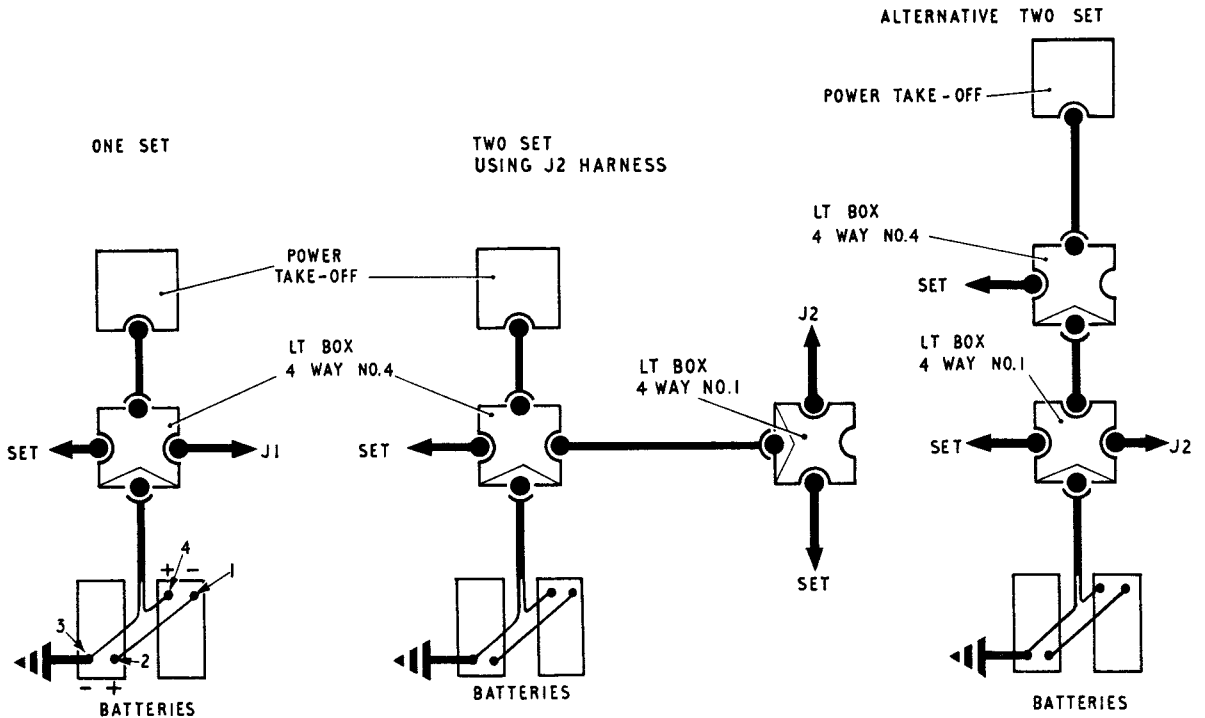
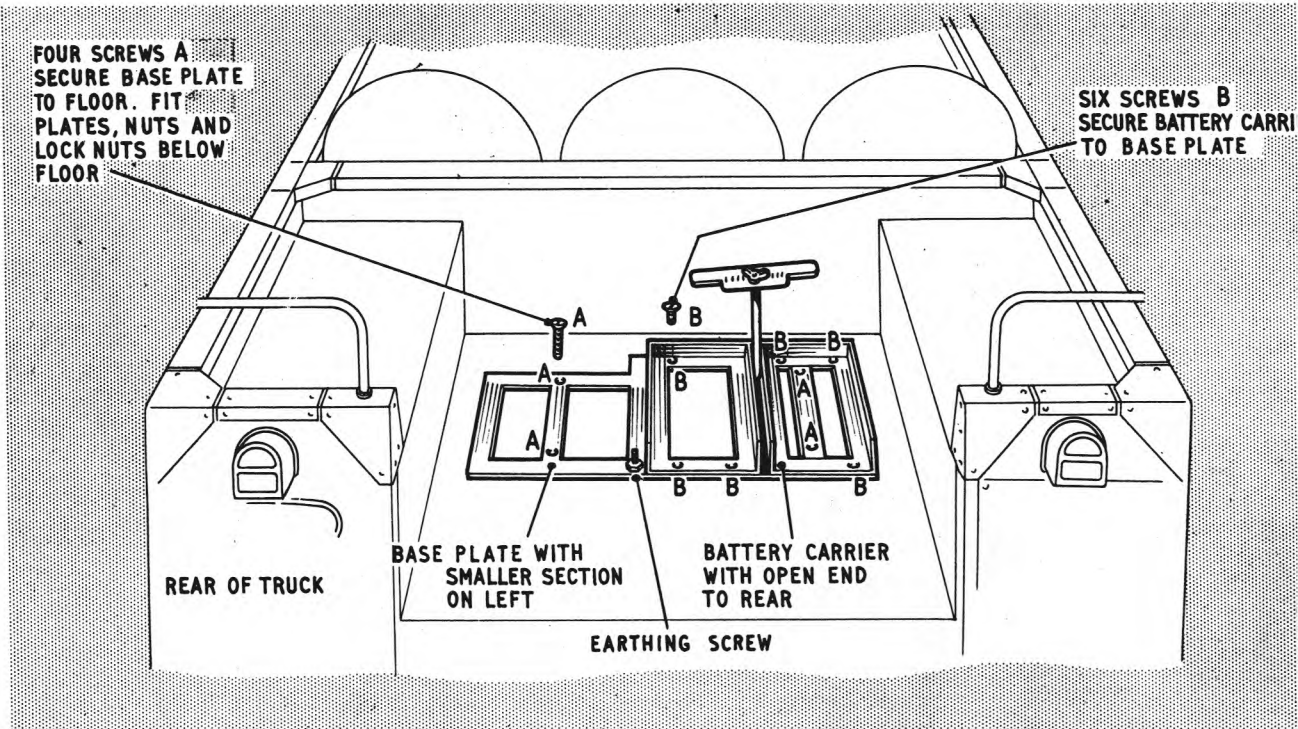

FIG. 6 BATTERY CONNECTIONS TO ALTERNATIVE LT BOXES
FIG. 13 METHOD OF FITTING THE BATTERY CARRIER AND BASEBOARD
It is very easy to short circuit the power supply when metal cased batteries are used in metal floored vehicles and loose leads are allowed to come into contact with either the case of the battery or the metal floor or framework. Such a short circuit will cause severe damage by allowing a very heavy current to flow in the negative lead to the equipment. Before connecting batteries, see that one end of the earth connector (lead electrical single, 3-ft.) is firmly secured to the earth terminal on the metal baseboard under the battery carrier. This earthing screw is shown in fig. 13. To minimise the risk of short circuits, always fit battery connections in the order shown on the batteries in the LH diagram in fig. 6.
- (a) First fit the series connector (lead electrical single, 2-ft.6-in.) between the negative terminal on one battery (1 in fig. 6) and the positive terminal on the other (2 in fig. 6). The terminals to which the series connector is fitted must not now be used for any other connections.
- (b) Fit the free end of the 3-ft. earth connector to the vacant negative terminal (3 in fig. 6).
- (c) Fit the negative lead of the power supply connector to the same terminal as the earth connector (3 in fig. 6). Do not use terminals occupied by the series connector.
- (d) Then fit the positive lead of the power supply connector to the vacant positive terminal (4 in fig. 6).
- (5) "Live" lugs on the battery connector
When a 24V kit is installed in a Truck FFR  $\frac{1}{4}$ -ton Austin, the radio batteries are connected in parallel with the vehicle batteries so that they can be charged from the vehicle generator. The power take-off is connected to the LT box on the set as shown in fig. 6. As a result of this arrangement the lugs on the ends of the radio battery lead are "live" when disconnected from the battery, unless the battery lead is first detached from the LT box on the radio set. In the same way the lugs become "live" when the battery lead is connected to the LT box. If these lugs are brought together, or if the positive lug comes into contact with the vehicle, a short circuit will occur and the vehicle batteries will rapidly discharge. Consequently, always connect and disconnect this battery lead as shown below.
In a one-set installation with a J1, the LT box 4-way No. 4 is fitted between batteries and power take-off, giving power sockets for set and J1 as shown in the LH diagram in fig. 6. For a two set installation using the J2 harness, where additional power sockets are required, an LT box 4-way No. 1 is supplied in the J2 harness kit and can be connected either to one of the power sockets on the first LT box, as in the centre diagram in fig. 6, or between that LT box and the batteries as shown in the RH diagram in fig. 6. All other connectors are shown in the relevant radio set chapter.